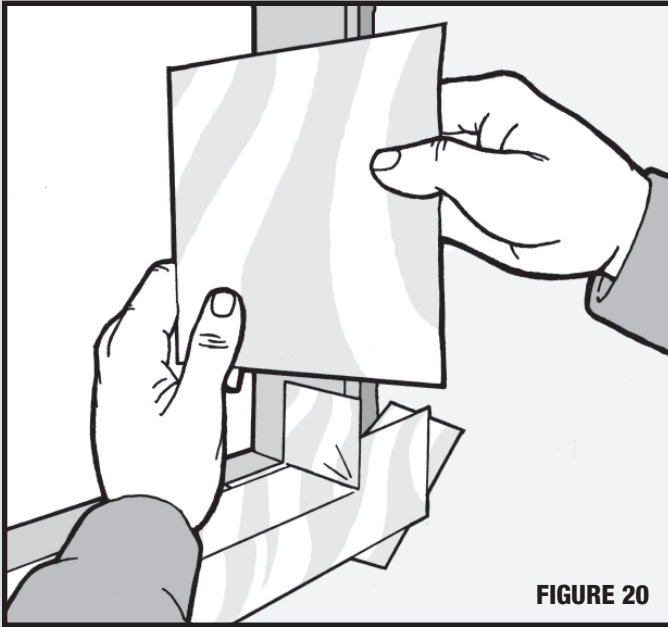

FIGURE 20
Step 12. Install Corner Protector. Using the larger Corner Protector 9 x 6 pieces, peel the release paper and run the flashing up to the 6" mark on the jambs, force into the 90 degree joint and over the top of the sill base flashing. (Figure 20) It will sit over the base sill flashing approx 3" since it was set 6" up the jamb.